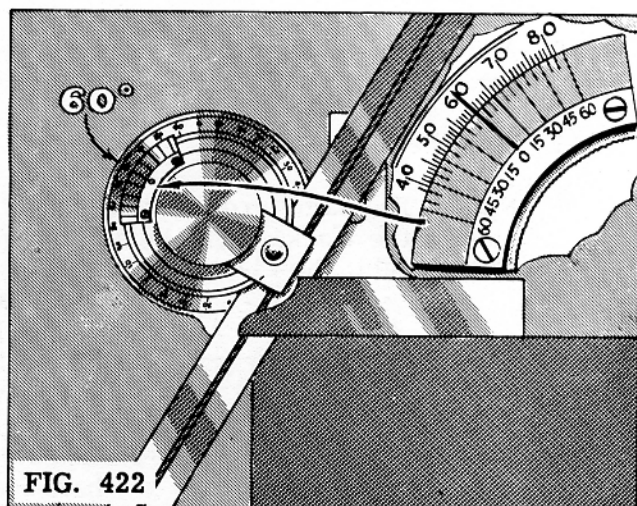

FIG. 422
12. Check the angular surface of the work with a protractor as shown in Fig. 422.